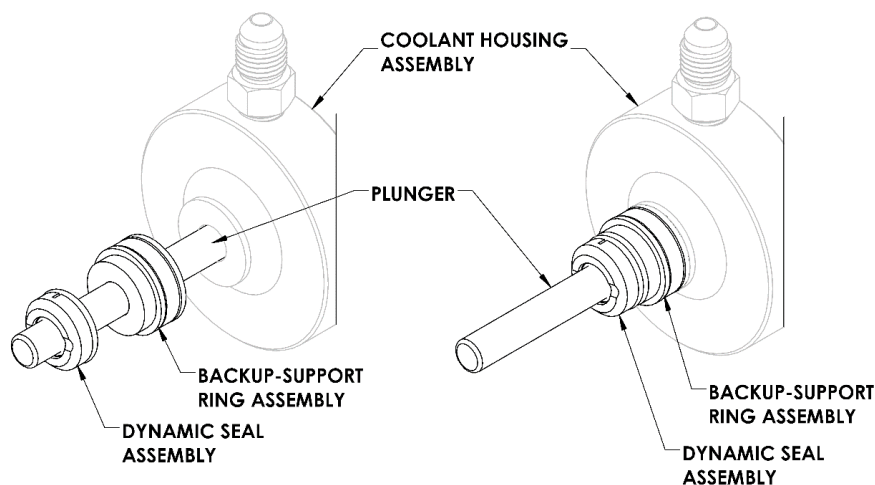

Figure 42 Sliding the Backup-Support Ring Assembly onto the Plungers
6. **Slide** the backup-support ring assemblies onto the plungers with the black bushing inside the backup-support rings toward the coolant housing assembly. (See **Figure 42 below.**) **Push** the backup-support ring assembly down the plunger until it rests against the coolant housing assembly.